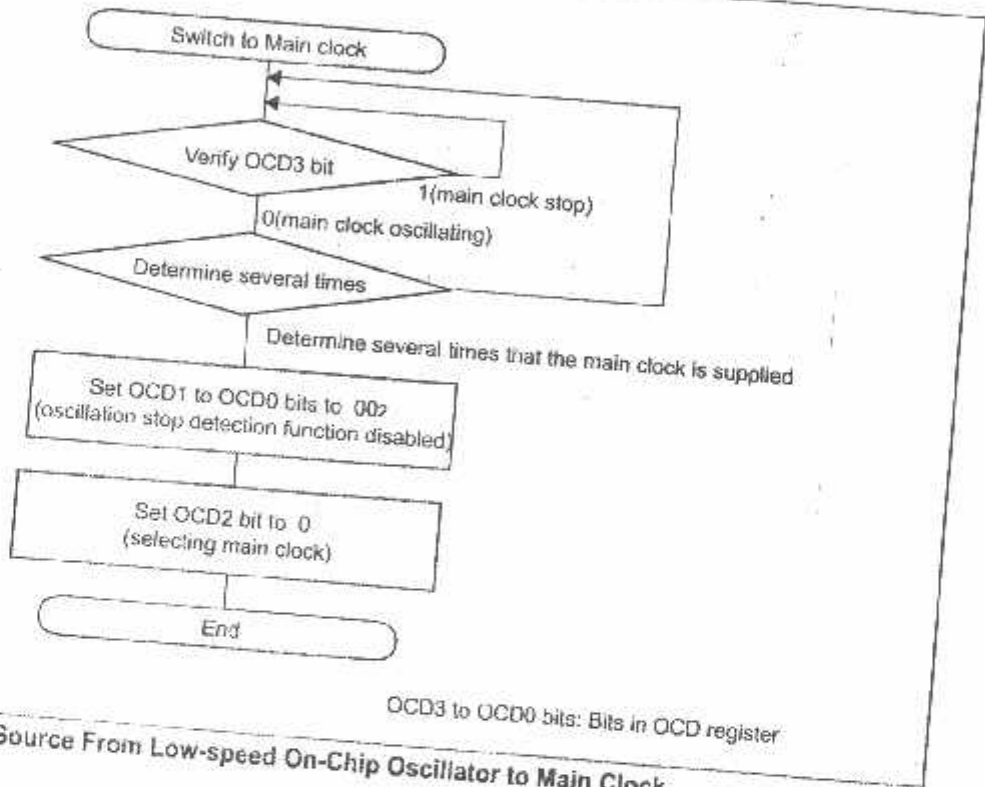

Figure 6.7 Switching Clock Source From Low-speed On-Chip Oscillator to Main Clock
- Where the main clock re-oscillated after oscillation stop, the clock source for the CPU clock and peripheral functions must be switched to the main clock in the program. Figure 6.7 shows the procedure for switching the clock source from the low-speed on-chip oscillator to the main clock.